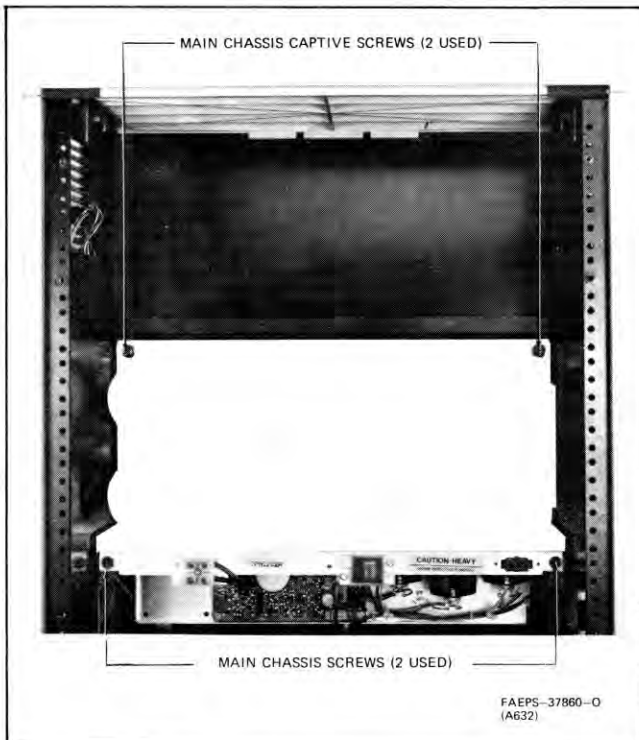

Figure 2. Power Supply Mounting Hardware
5.3 AUXILIARY REGULATOR CHASSIS REMOVAL (Refer to Figure 2.)
5.4 POWER SUPPLY REMOVAL (Refer to Figures 2 thru 5.)